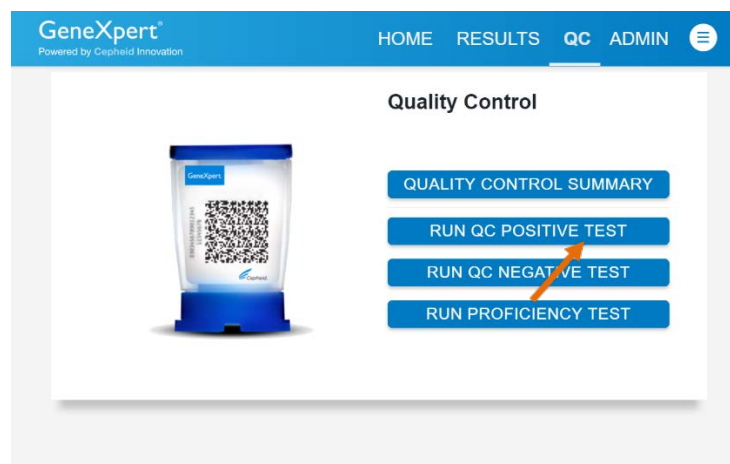

Figure 24. Quality Control Screen
2. The Quality Control screen appears. Touch **RUN QC POSITIVE Test**, **RUN QC NEGATIVE TEST** or **RUN PROFICIENCY TEST** option (Figure 24).